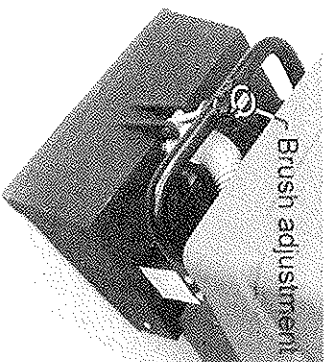

Fig.4
- Adjust the machine brush height to suit carpet pile by means of the adjustment knob (Fig.4). **NOTE** - The adjustment knob is located at the rear of the machine on **Champ Supreme** and **Super Champ**. Turning the knob anticlockwise (-) lowers the brush. A guide for initial setting is to turn the brush motor on and lower the brush until the motor is heard to start taking load. Too low a setting may overload the motor, causing the cut-out to operate. Should the cut-out operate, wait a few minutes for the motor to cool, raise the brush a little and press the cut-out reset button. The machine should then restart and operate normally.